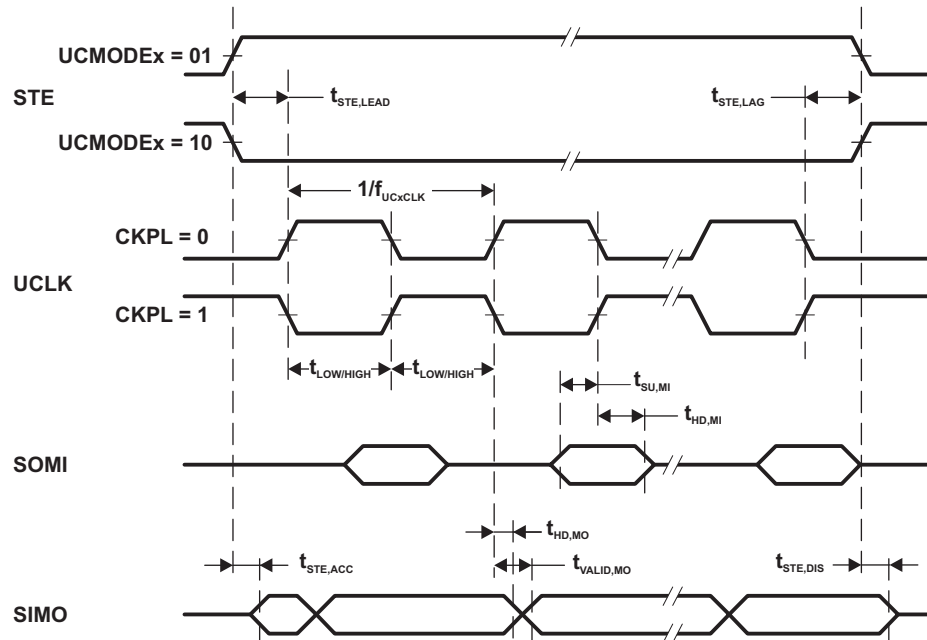
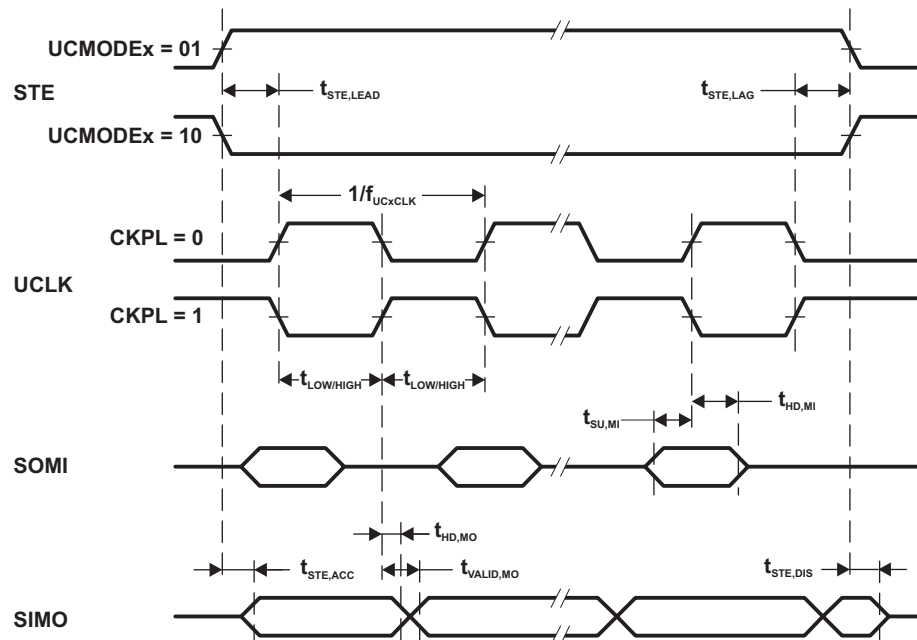

Figure 5-15. SPI Master Mode, CKPH = 0
Figure 5-16. SPI Master Mode, CKPH = 1
- (1) $f_{UCxCLK} = 1/2(t_{LO/Hi} \text{ with } t_{LO/Hi} = \max(t_{VALID,MO(eUSCI)} + t_{SU,SI(Slave)}, t_{SU,MI(eUSCI)} + t_{VALID,SO(Slave)}))$. For the slave parameters $t_{SU,SI(Slave)}$ and $t_{VALID,SO(Slave)}$, refer to the SPI parameters of the attached slave.
- (2) Specifies the time to drive the next valid data to the SIMO output after the output changing UCLK clock edge. Refer to the timing diagrams in Figure 5-15 and Figure 5-16.
- (3) Specifies how long data on the SIMO output is valid after the output changing UCLK clock edge. Negative values indicate that the data on the SIMO output can become invalid before the output changing clock edge observed on UCLK. Refer to the timing diagrams in Figure 5-15 and Figure 5-16.